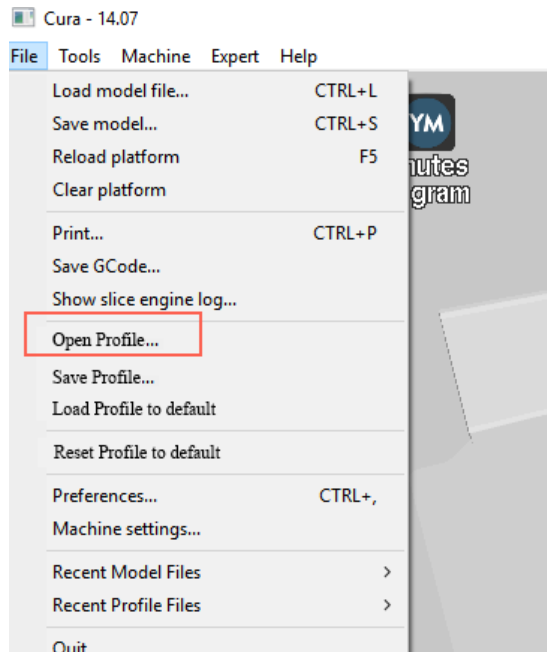

Figure 5.134 Import slice parameters
3. Set slice parameters, and select **File > Open Profile** to import these parameters, as shown in Figure 5.134.